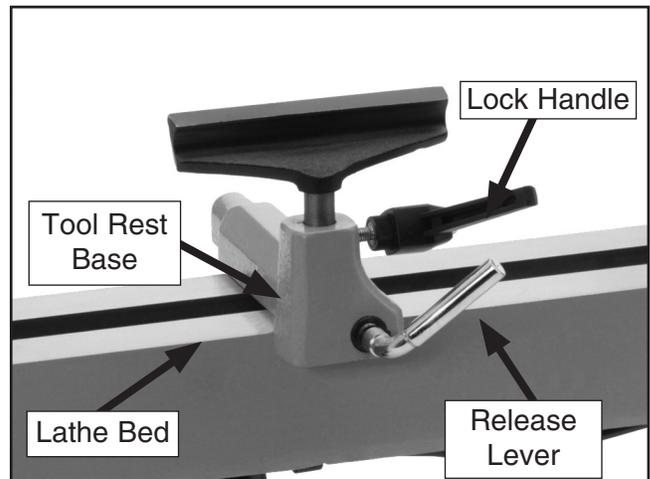

Figure 14. Tool rest controls.
1. Loosen the release lever and slide the tool rest base along the bed (**Figure 14**).
1. Loosen the lock handle (**Figure 14**) and adjust the tool rest vertically or swivel it as needed, then tighten the lock handle.